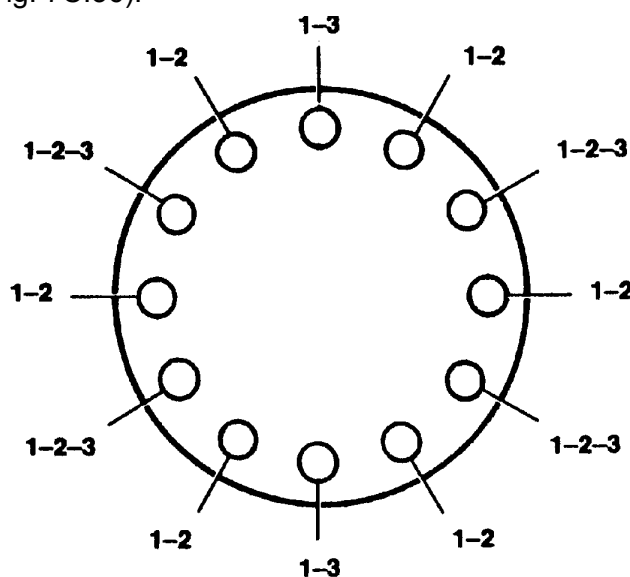

Fig. 7C.35. Spring Arrangement
5. Install retaining ring (61) into 2nd clutch gear and hub (62). Position bearing spacer (60) against retaining ring at gear end. Press bearing cups (59) into gear and hub (62). Heat one bearing cone to 140 [°C] and install bearing cone onto shaft (10) next to bearing spacer (68). Place gear and hub on shaft (10) insuring that hub splines engage all clutch plates. Heat other bearing cone (59) to 140 [°C] and install on shaft into gear and hub. Lubricate bearings with clean oil when cool. Heat next bearing cone (9) to 140 [°C] and install 3 [mm] above clutch bearing (59) (Fig. 7C.36).